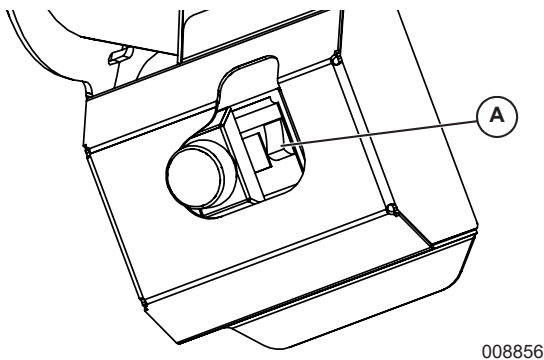

Figure 3-1. Starting the Unit
1. See Figure 3-1. Press start button (A) to start fan.
1. See Figure 3-1. Close water valve (A).